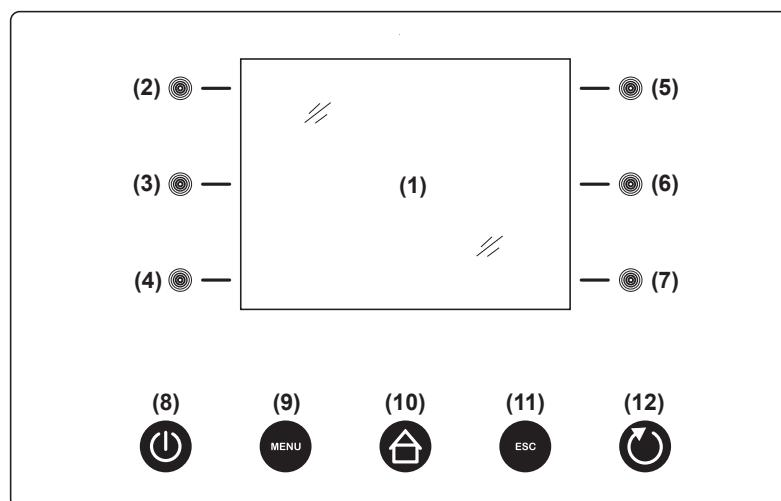
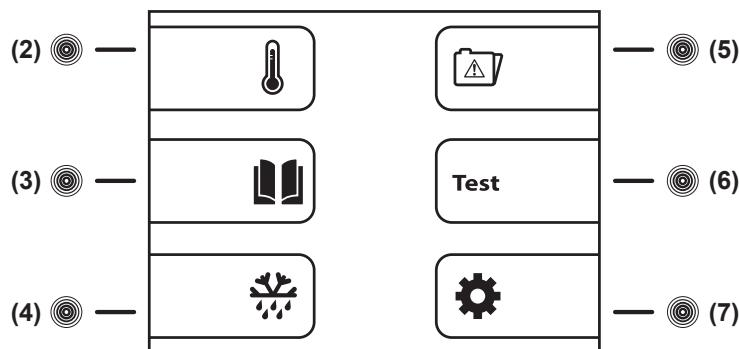

Fig.10
Fig.12
- xPRO control panel (**Fig.10**)
8.1.1 Description of controls and touch-buttons of the xPRO control panel (**Fig.10**)
8.2.2 Sequence and ON/OFF code (*Fig.10*)
- press the **ON/OFF touch-button (8)** to switch the appliance ON; the display shows the screen-shot to insert the ON/OFF code
- enter the **ON/OFF code 0050** through the **touch-buttons (3) (6) and (4) (7)**
- having inserted the correct code, press the **ENTER touch-button (12)** to confirm, the appliance switch-on and the access to all touch-buttons is enabled
8.2.3 Stopping the unit (*Fig.10*)
- with control panel on, press the **ON/OFF touch-button (8)** to switch the appliance OFF
- enter the **ON/OFF code 0050 through the** touch-buttons **(3) (6) and (4) (7)**
- having inserted the correct code, press the **ENTER touch-button (12)** to confirm, the appliance switch-off
8.2.4 Date and time setting (Fig.10)
- press the **MENU touch-button (9)** to access to the main menu (Fig.12)
To access to the Main Menu (Fig.12) press the **MENU touch-button (9)** (Fig.10). (enter the touch-buttons unlocking protection code **0010** if needed)
8.3.1 Setpoint Menu (touch-button (2) Fig.12)
8.3.2 Datas Menu (touch-button (3) Fig.12)
From the main menu screen-shot (**Fig.12**), press the **touch-button (3)** to access to the Datas Menu.
- from the datas menu, press the **touch-button (7)** to access to the SENSORS menu
- press the **ESC touch-button (11)** to return back to the previous menu or **HOME touch-button (10)** to return back to the main screen-shot
(touch-button (4) Fig.12)